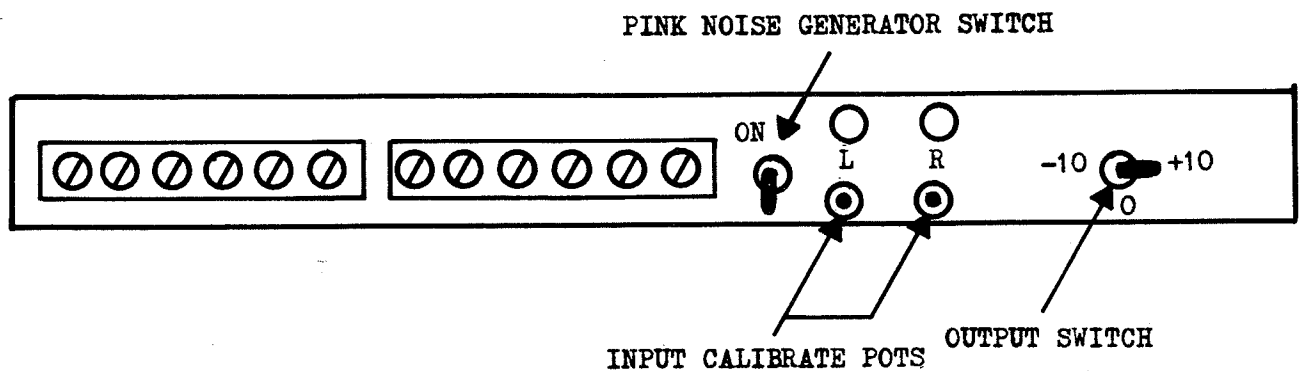

FIGURE 3-5 INPUT CALIBRATE POTS
3.2.1 Input Calibrate Pots (Figure 3-5)